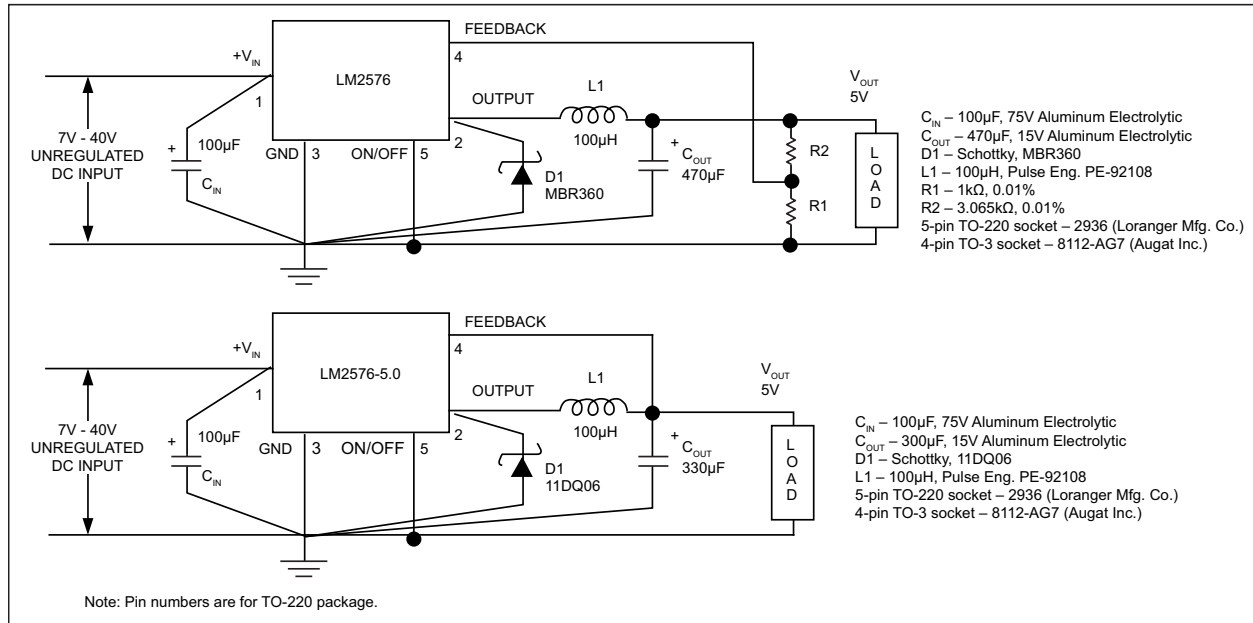

FIGURE 4-1: Test Circuit.
System Parameters, 5V Regulators (Note 2) Test Circuit Figure 4-1
- External components such as the catch diode, inductor, input and output capacitors can affect switching regulator system performance. When the LM2576/LM1576 is used as shown in Figure 4-1 test circuit, system performance will be shown in system parameters section of Electrical Characteristics.
System Parameters, 12V Regulators (Note 2) Test Circuit Figure 4-1
On/Off Control, Fixed and Adjustable Regulators, Test Circuit Figure 4-1
- 2:** External components such as the catch diode, inductor, input and output capacitors can affect switching regulator system performance. When the LM2576/LM1576 is used as shown in Figure 4-1 test circuit, system performance will be shown in system parameters section of Electrical Characteristics.